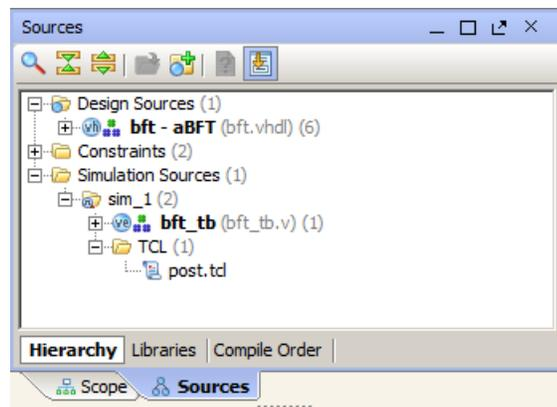

Figure 3-15: Using the `post.tcl` File in a Design
4. Add the `post.tcl` file to your Vivado Design Suite project as a simulation source. The `post.tcl` file displays in the Simulation Sources folder, as shown in Figure 3-15.